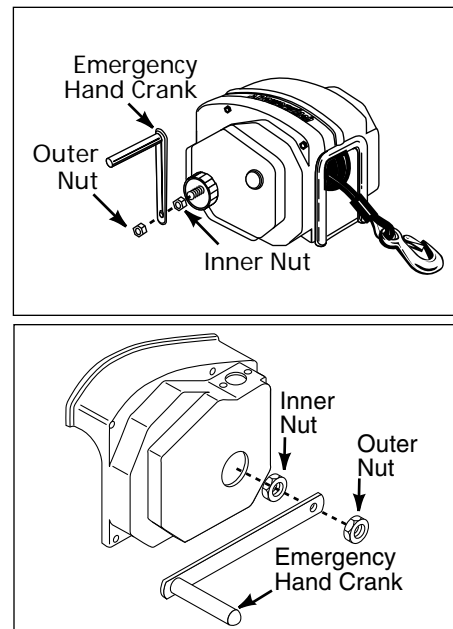

Figure 5
2. Turn the clutch control knob clockwise until tight. **DO NOT** overtighten the knob or clutch damage will occur (See Figure 5).
3. Remove the outer nut shown in Figure 5 and place the emergency hand crank on the shaft.
1. Remove the outer nut shown in Figure 5 and remove the emergency hand crank off the shaft.